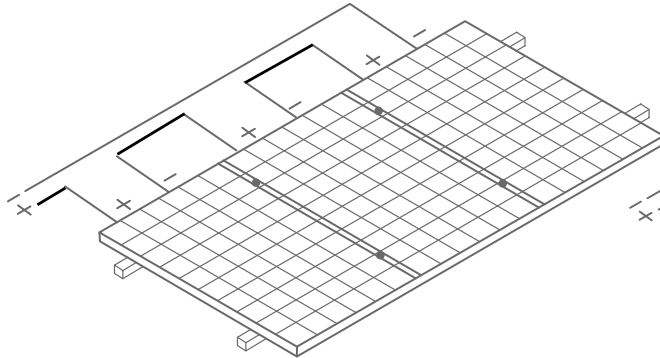

Figure 5 Series connection mode
- Do not use different types of modules in the same solar photovoltaic system. When the modules are connected in series, the voltage of each series cannot exceed the maximum voltage of the system (the series connection mode is shown in Figure 5 below). Reference formula of maximum series number of modules: $\text{Maximum system voltage of modules} / (1.3 * \text{open circuit voltage})$.